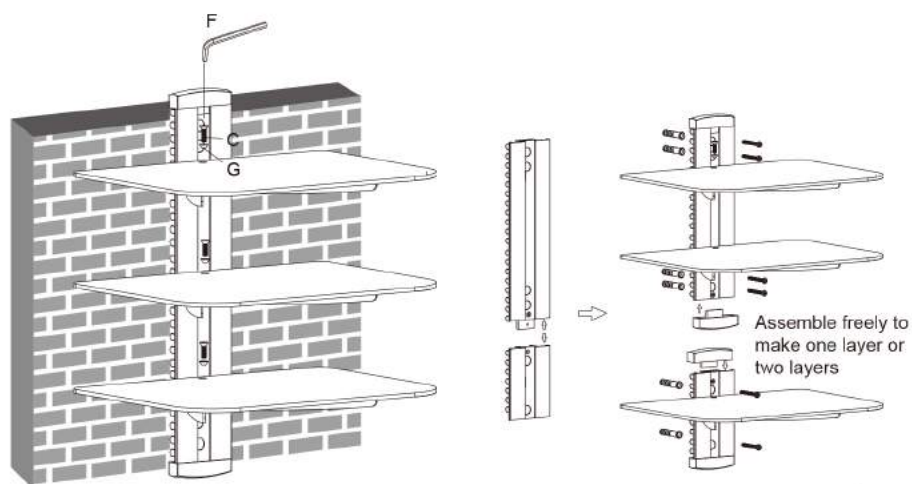

Fig.4.1
- Place the three glass shelf gently on the three glass holders respectively. Attach the glass shelves to the glass holders using screws and plastic bushes, tighten screws with a 3mm Allen key but not tighten completely at this time. Center the glass shelves over holes, securely tighten screws with a 3mm Allen key as shown in fig.4.1.